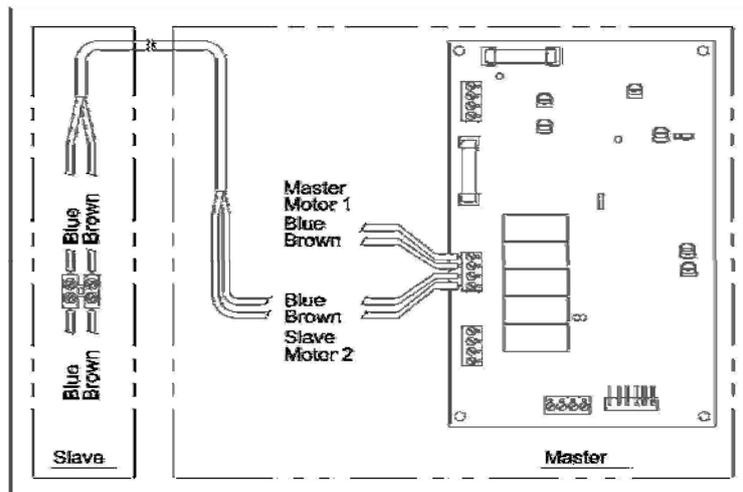

Figure 3: Master-slave connections.
4. If you have a pair of gates then connect the slave to the Master Unit with 2 core Flex/Cable (Max load 8 Amp at 12 Volts) (See Figure 3). The LI-2B operators are set in the factory for a "Standard Installation" with the Master placed on the LEFT HAND SIDE (From the inside looking out). If the Master has to be located on the right then the motor wires need to be reversed. To accomplish this, locate the connection blocks for each motor on the Circuit Board. Swap the BROWN and BLUE wires for Motor 1 and Motor 2 (See Figure 3)